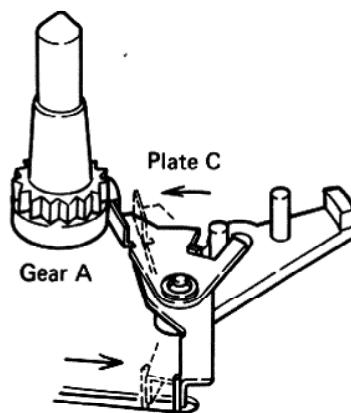

Fig. 14
- End of plate C engages with convex portion of gear A (Fig. 14).